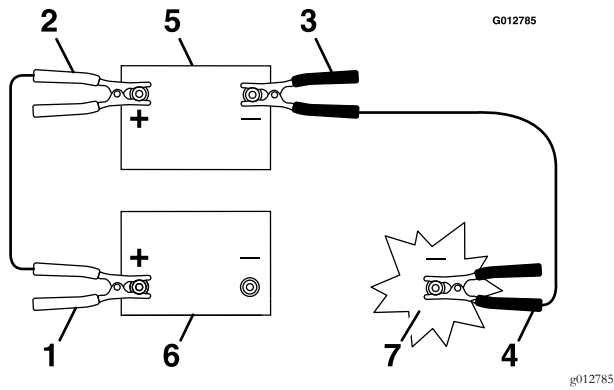

Figure 41
3. Connect the positive (+) cable to the positive (+) terminal of the discharged battery that is wired to the starter or solenoid as shown in Figure 41.